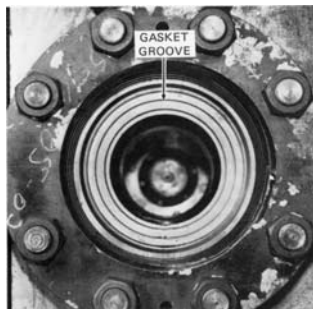

Figure 4-4 Gasket groove
4. Clean gasket groove and lubricate with multipurpose grease. (Fig. 4-4)